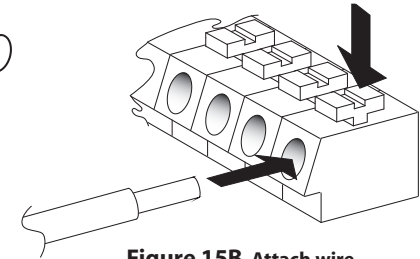

Figure 15B Attach wire
3. Insert 20AWG - 12 AWG solid or stranded wire into the connector. (Fig. 15B).